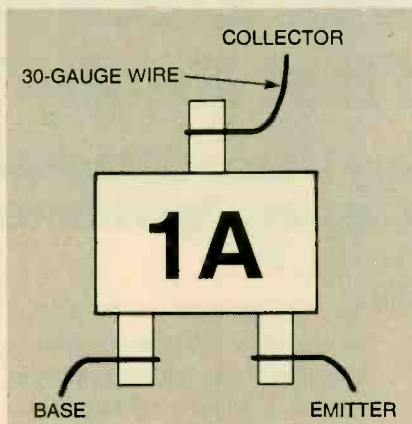

Fig. 2. Surface-mount transistors can be converted to use with perfboard with some careful work.
**Construction Tips.** The Heat Detector's circuit is simple enough that it can be built on perfboard using standard construction techniques. One area that will be a bit more difficult is connecting the tiny surface-mount transistors to the circuit. The simplest method is to attach separate leads directly to the units, converting them to through-hole-like devices. They can then be mounted to a perfboard like any other standard leaded part. The technique is shown in Fig. 2. Use 30-gauge wires that are at least 1-inch long for the leads—the excess length can be trimmed off after the unit is mounted to the board. In order to help protect the transistor from heat-related damage during soldering as well as making it easier to handle the tiny parts, hold the transistor case with a "micro-gator" clip such as a RadioShack 270-373. That particular clip has flat jaws rather than serrated teeth.